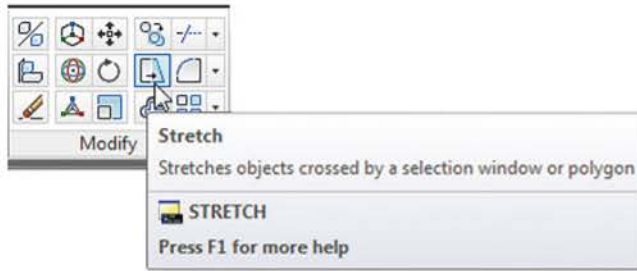

Fig. 6.29 The Stretch tool from the Home/Modify panel
2. Call the **Stretch** tool – either *click* on its tool icon in the **Home/Modify** panel (Fig. 6.29), *pick* its name in the **Modify** drop-down menu, or *enter* **s** or **stretch** at keyboard. The command sequence then shows: